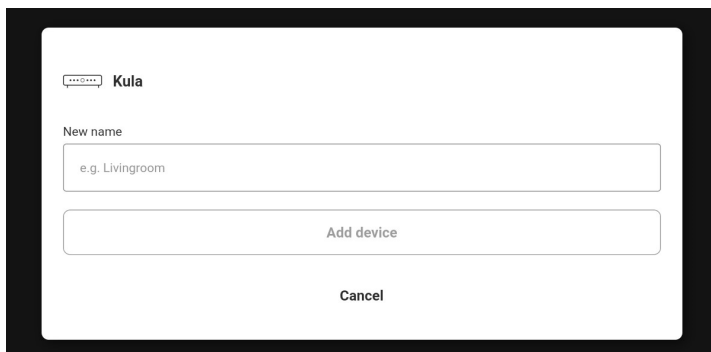

Figure 7: Type in new name and click Add device.
3. Type in new name and click Add device (figure 7).